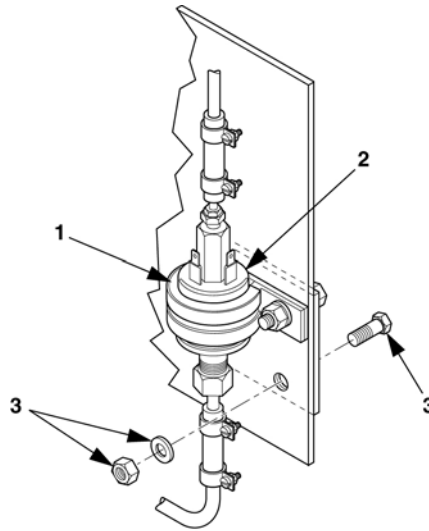

Figure 5-5. Fuel Pump Assembly.
26. Reinstall the bottom hinge on the outside of the bulkhead housing while installing clamp and pump (1 and 2), Figure 5-5, on inside using hardware removed in step 18 and screw (3).